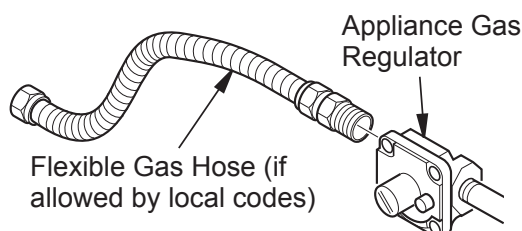

Figure 10 - Attaching Flexible Gas Hose to Appliance Gas Regulator
1. Apply pipe joint sealant lightly to male threads of the 3/8 NPT side of gas fitting and connect to inlet side of gas control. Remove gas fitting from flexible gas hose (provided) before connecting to elbow (see **Figure 10**).